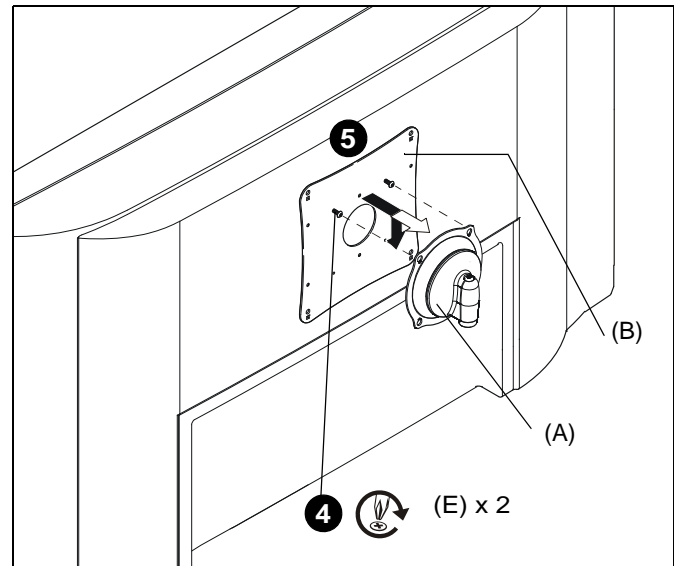

Figure 11
4. Start installing two M4 x 8mm Phillips pan machine screws (E) into top mounting holes on interface bracket (B). (See Figure 11)